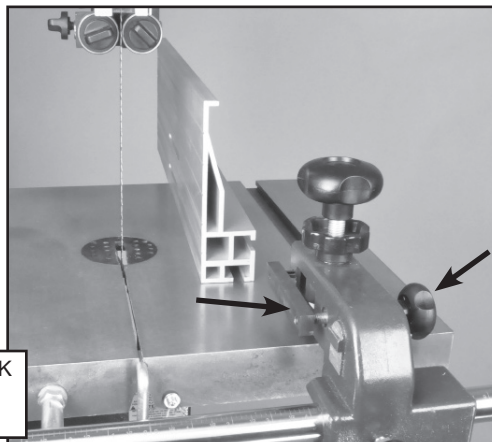

FIGURE 9
3. Fully unscrew the side handle from the sliding block and reassemble the parts on the opposite, left side of the carrier. Then rotate the fence 180° end-to-end and slide it back onto the carrier. Fig. 9 & 10.